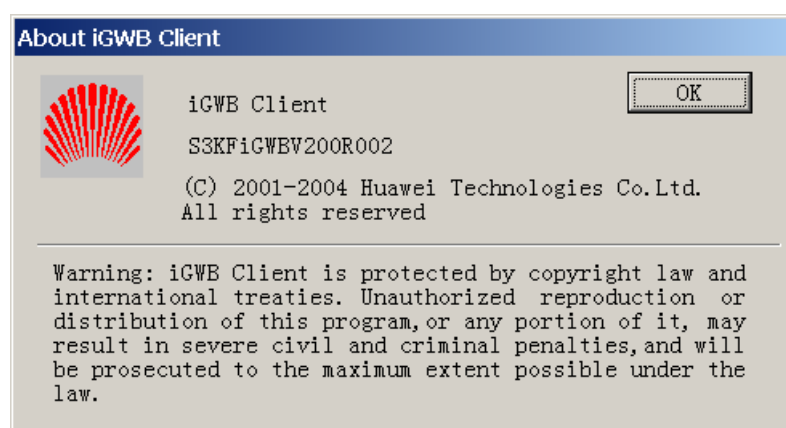

Figure 2-98 [About iGWB Client] dialog box
- 2) Select [Help/About iGWB]. The [About iGWB Client] dialog box is displayed, as shown in Figure 2-98. "V200R002" is the version of the iGWB software.